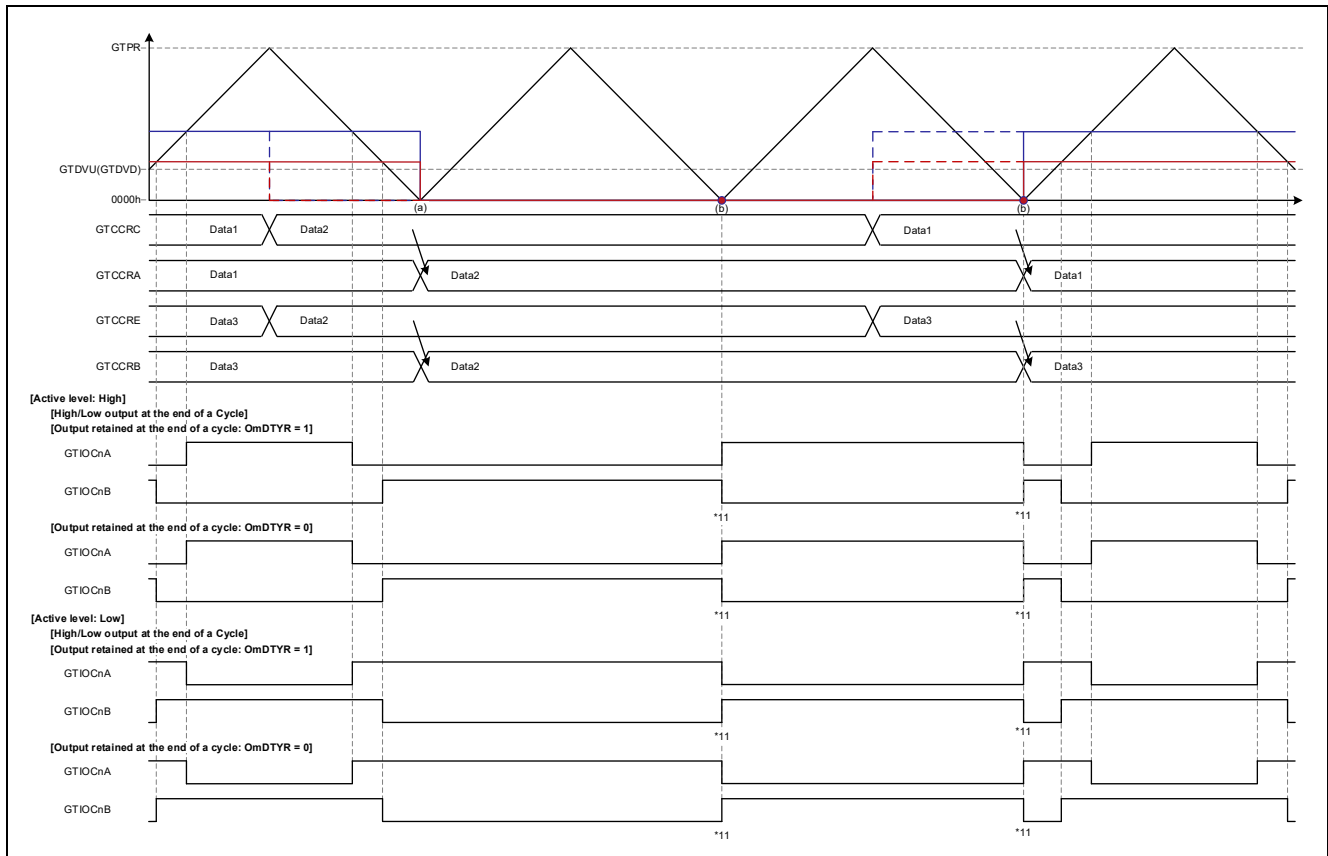
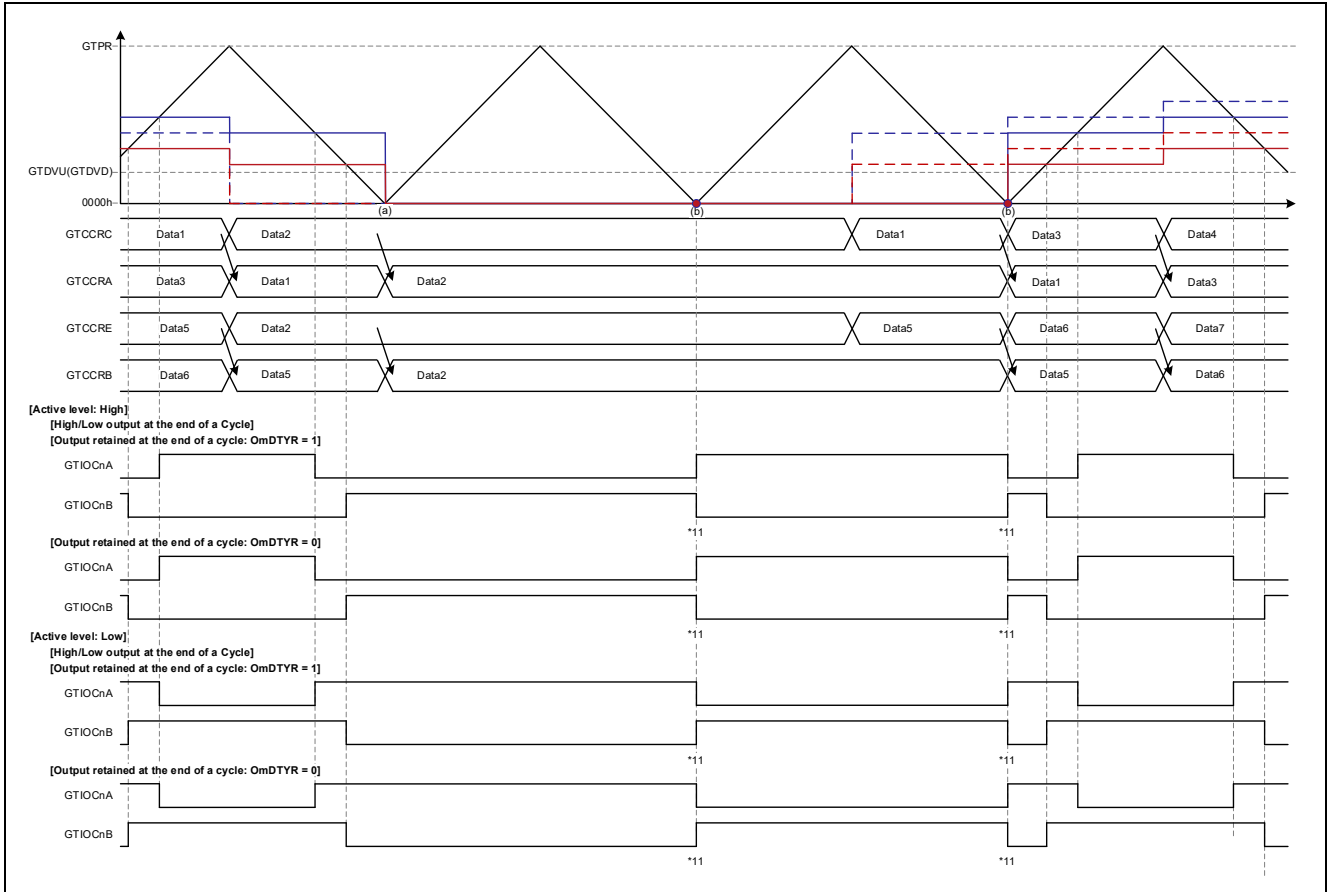
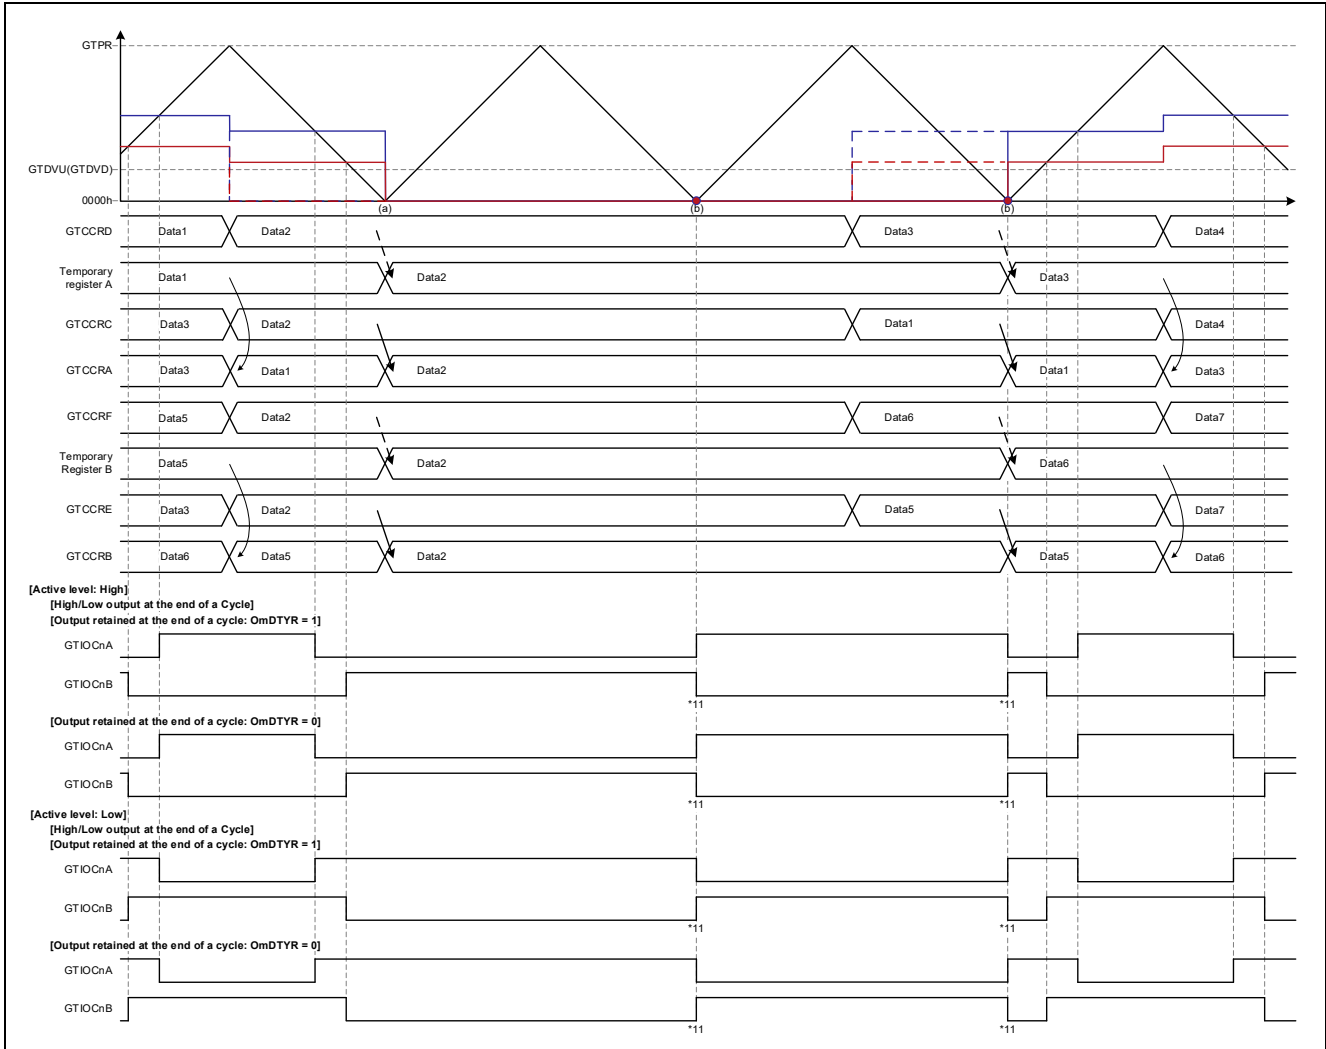

Figure 1.109 Triangle-Wave PWM Mode 1 Operation Example
Figure 1.110 Triangle-Wave PWM Mode 2 Operation Example
Figure 1.111 Triangle-Wave PWM Mode 3 Operation Example
Operation examples when an abnormal value (0000 0000h) setting is used as listed in Table 1.14, Figures Showing Output Waveforms, are shown in Figure 1.109 to Figure 1.111 and applicable cautions are described below.
- Operation Example 1: Figure 1.109 Triangle-Wave PWM Mode 1, Abnormal Value (Transfer at Trough)/Normal Value (Transfer at Trough), caution 11
- Operation Example 2: Figure 1.110 Triangle-Wave PWM Mode 2, Abnormal Value (Transfer at Trough)/Normal Value (Transfer at Trough), caution 11
- Operation Example 3: Figure 1.111 Triangle-Wave PWM Mode 3, Abnormal Value (Transfer at Trough)/Normal Value (Transfer at Trough), caution 11
Figure 1.109 shows an operation example of transfer of 0000 0000h to GTCCRA via buffer transfer at trough in triangle-wave PWM mode 1.
Figure 1.110 shows an operation example of transfer of 0000 0000h to GTCCRA via buffer transfer at trough in triangle-wave PWM mode 2. Except for the difference in the buffer overwrite timing and transfer timing, the operation is the same as that shown in Figure 1.109.
Figure 1.111 shows an operation example of transfer of 0000 0000h to GTCCRA via buffer transfer at trough in triangle-wave PWM mode 3. Except for the difference in the buffer overwrite timing and transfer timing, the operation is the same as that shown in Figure 1.109.